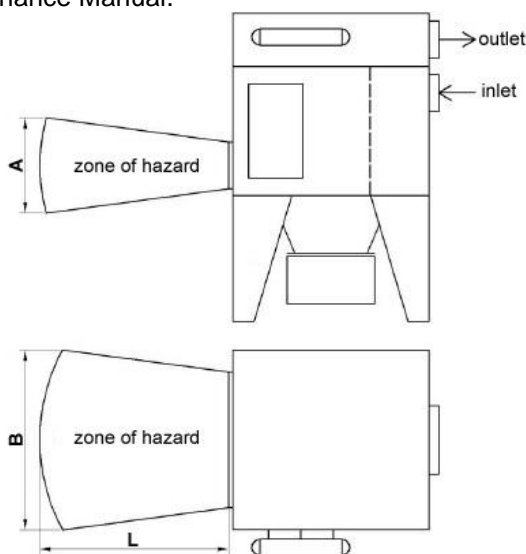

Fig. No.6 – Decompression panel – Zone of hazard
3.5 At the side of decompression panel – it is important to create a hazard area of potential explosion according to the Fig. No.6. This area should be free of barriers such as machines, devices, walls etc.